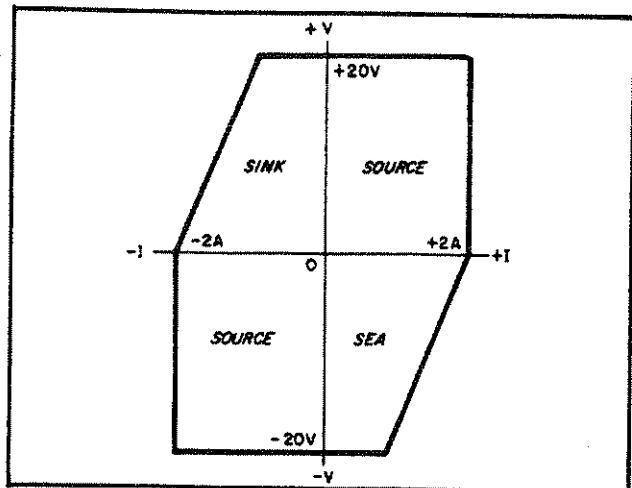

Figure 3-14. 6825A Output Ranges
**3-65** Current limit circuits also protect the BPS/A from active loads that force energy in or out of the BPS/A (sink condition). This can appear as current flow into the HI OUT (+) terminal when the terminal is positive, or current flow out of the terminal when it is negative. Figure 3-14 shows the normal operating locus of the BPS/A. As shown, the 6825A BPS/A will limit the sink current to a value ranging linearly from 2A at 0V to 1A at 20V.